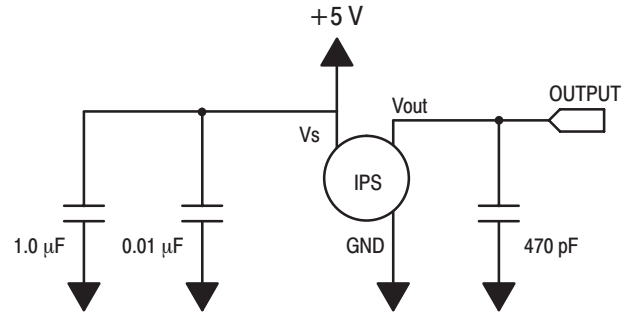

Figure 3. Recommended power supply decoupling and output filtering. For additional output filtering, please refer to Application Note AN1646.
**OPERATING CHARACTERISTICS** ( $V_S = 5.1$  Vdc,  $T_A = 25^\circ\text{C}$  unless otherwise noted,  $P1 > P2$ . Decoupling circuit shown in Figure 3 required to meet electrical specifications.)
Figure 3 shows the recommended decoupling circuit for interfacing the output of the integrated sensor to the A/D input of a microprocessor or microcontroller. Proper decoupling of the power supply is recommended.